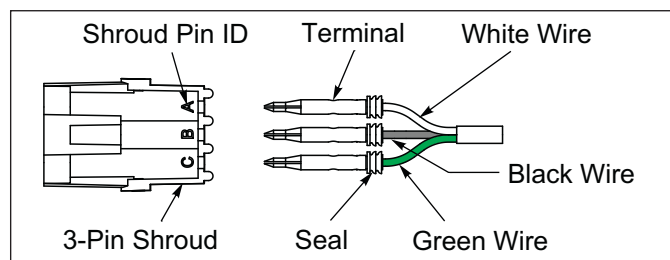
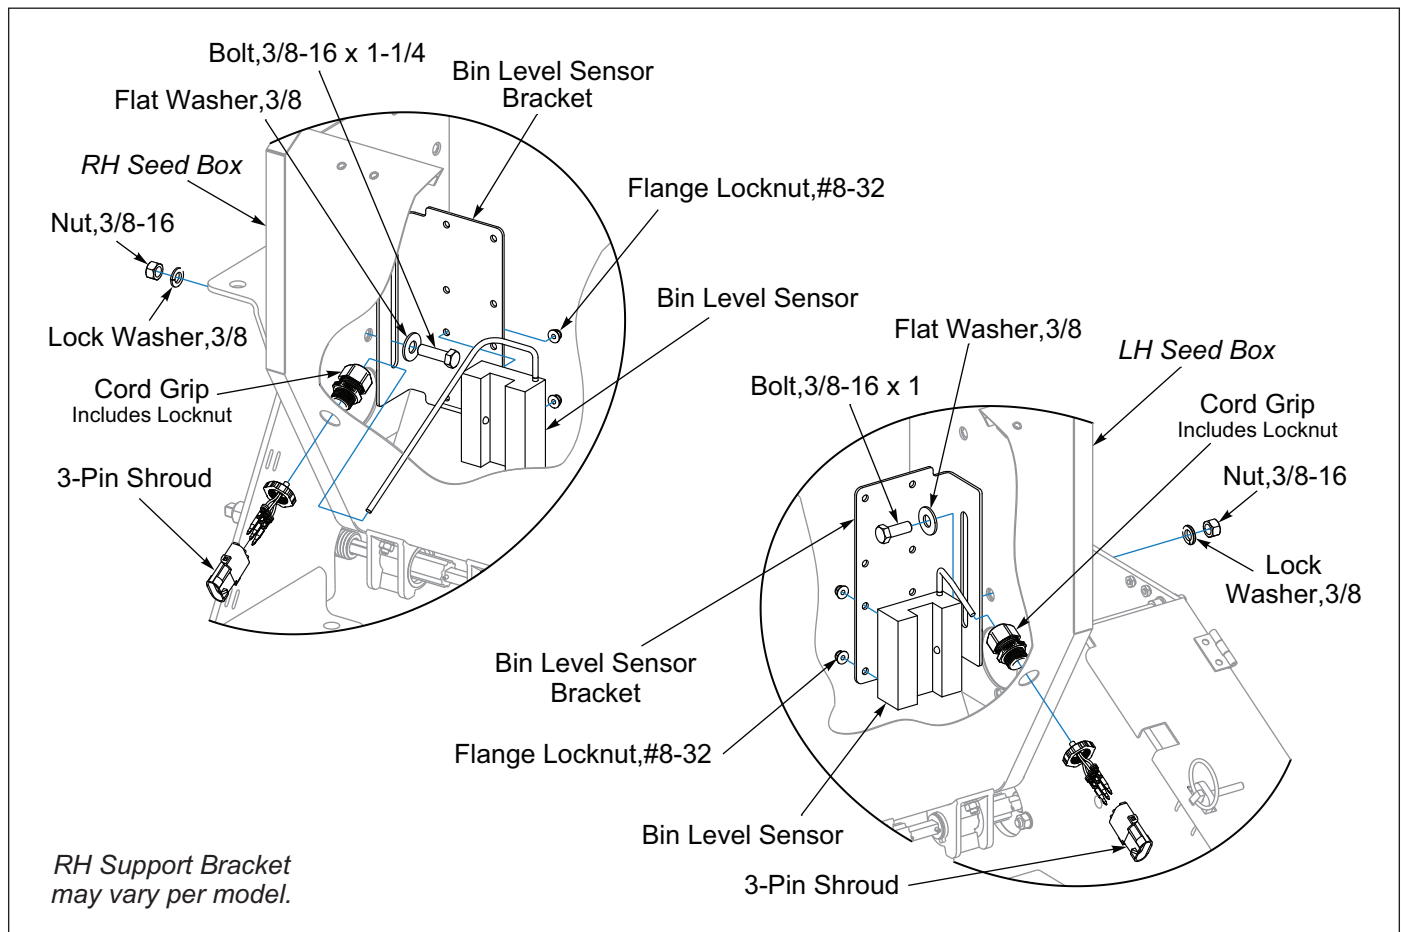

Figure 2-31: Bin Level Sensor Wire Detail
Figure 2-36: Brillion Elite Mini Monitor - Bin Level Sensor
6. On the inside at either end of the Seed Box, install a Bin Level Sensor Bracket with the Seed Box Mounting 3/8-16 Hardware. **See Figure 2-36.** Determine the desired level for the alarm to be indicated on the Brillion Elite Mini Monitor and assemble the Bin Level Sensors to Bin Level Sensor Brackets with sensor provided hardware and #8-32 Flange Locknuts. If more adjustment is needed, the Bin Level Sensor Brackets can also be raised or lowered to the desired seed level. Install Cord Grips from the inside of the Seed Box out and secure with supplied Locknut on the outside of the Seed Box. To get the Sensor Connector outside the Seed Box, feed the terminals through the Cord Grip. Install the terminals into the 3-Pin Shroud labeled "A", "B" and "C" as follows "A" White, "B" Black, "C" Green. **See Figure 2-31.** Inside the Seed Box, provide enough cord slack to the Bin Level Sensor Cord to allow for future adjustments of the Sensor. Secure the Bin Level Cord by tightening the Cord Grip Compression Nut. Connect both Bin Level Sensors to the Seeder Harness.